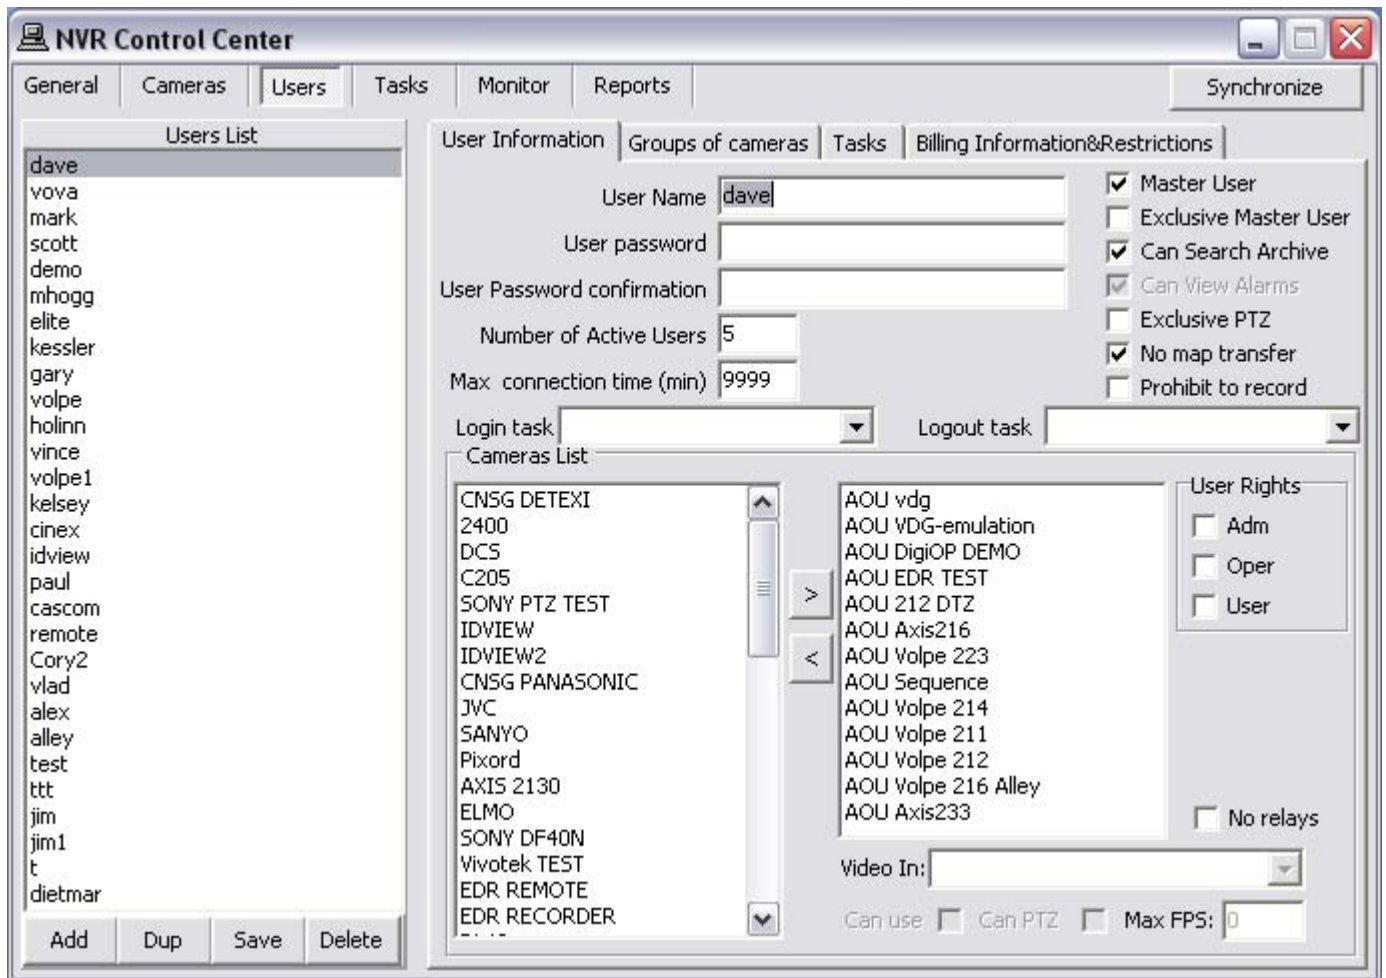

Fig 12. NVR Control Center — Users — User Information
1. In the **NVR Control Center** switch to **Users — User Information** (Fig 12).